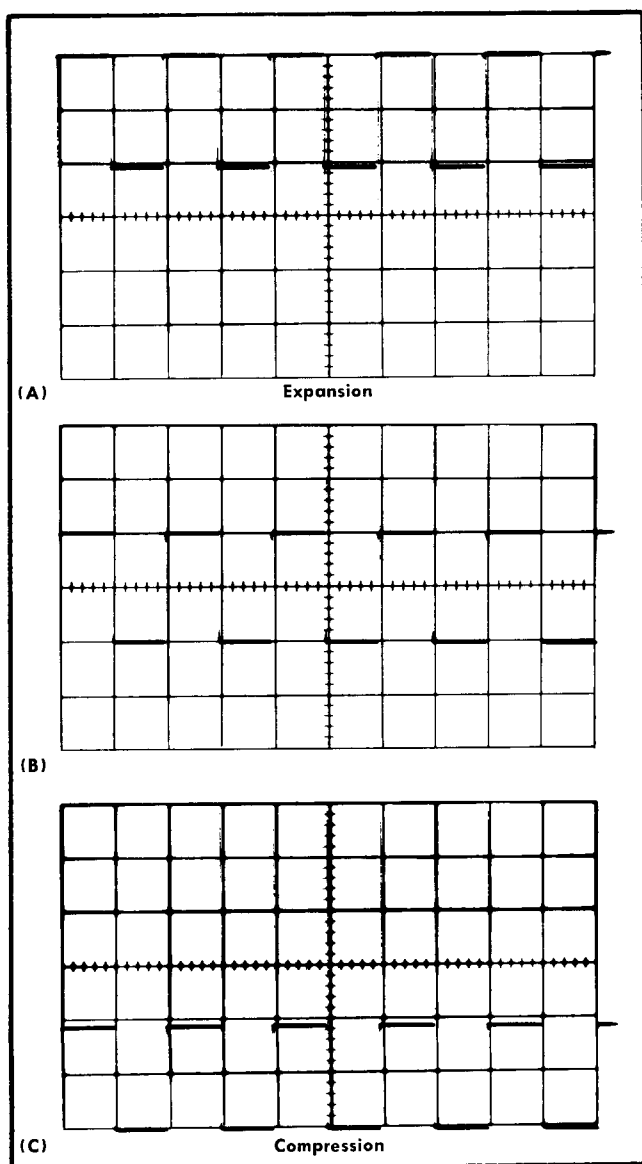

Fig. 5-5. Typical CRT display showing acceptable compression and expansion. (A) Expansion, (B) correct deflection at center of graticule, (C) compression.
- e. CHECK—Compression or expansion 0.1 division or less (see Fig. 5-5).
- g. CHECK—Compression or expansion 0.1 division or less (see Fig. 5-5).
- l. CHECK—Compression or expansion 0.1 division or less (see Fig. 5-5).
- n. CHECK—Compression or expansion 0.1 division or less (see Fig. 5-5).